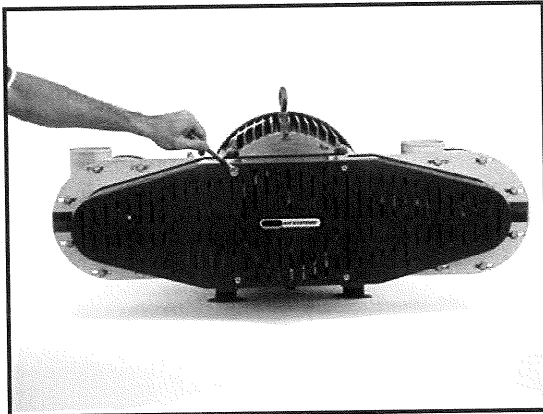

Figure 6 - Remove Belt Guard
1. Remove the belt guard using the ½ inch box-end wrench. (See Figure 6)